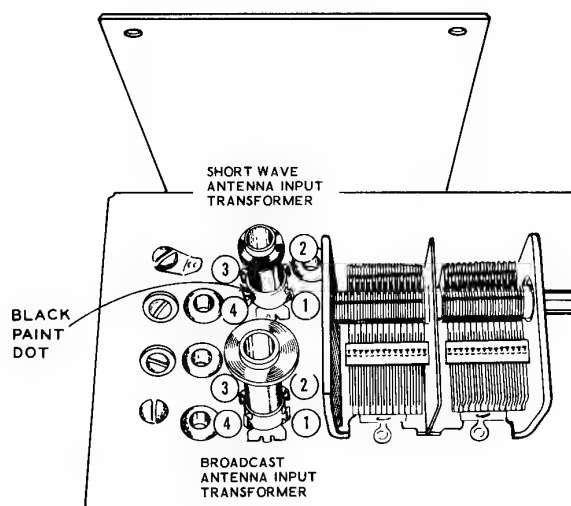

Figure 10M
- (4) Mount the short wave antenna input transformer (#40-300) in position as shown in Figure 10M. Note that there is a black dot on the coil to identify lug 4.